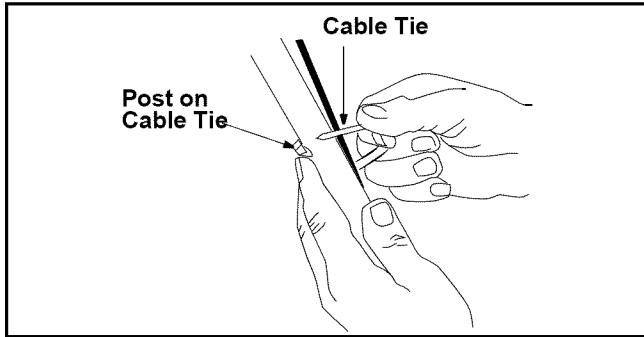

Figure 6
- Insert post of cable ties that are on lower handle into the holes provided on the lower handle. The holes may be on the inside or outside. Pull cable ties tight and cut off the extra. See Figure 6 below.